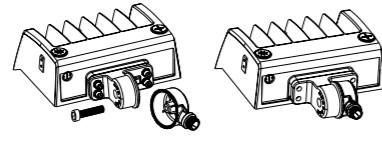

Figure 3.2
STEP 3: Run the rubber wire through the other holder and tighten it with the hexagon socket screw. (Watch out not to scratch the wire). (Figure 3.2)